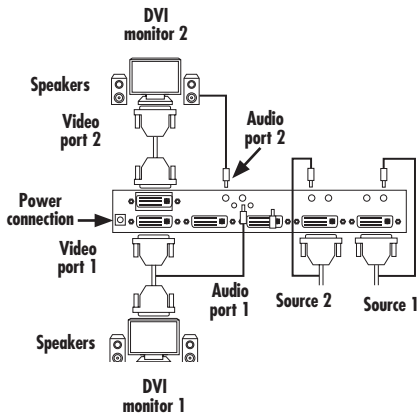

Figure 4-4. Connecting video and audio port 1 and port 2 output.
1. Connect your monitor 1 to the switch's video port 1. See Figure 4-4.
2. Connect a pair of speakers to the switch's audio port 1. See Figure 4-4.
3. Repeat Steps 1 and 2 for the switch's video port 2 and audio port 2. See Figure 4-4.